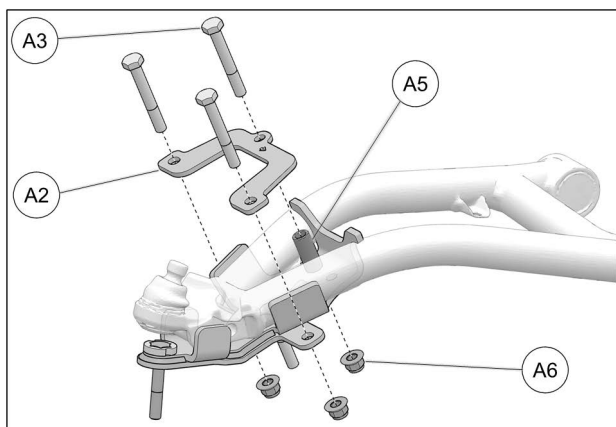

Fig. 18
8. Set bracket cover plate (A2) over suspension arm. Insert M10x75mm bolts (A3) from the top through cover plate and bushing (A5). Secure the parts together with provided nuts (A6). Tighten nuts to 50 Nm [37 lb•ft] of torque. See Fig. 18